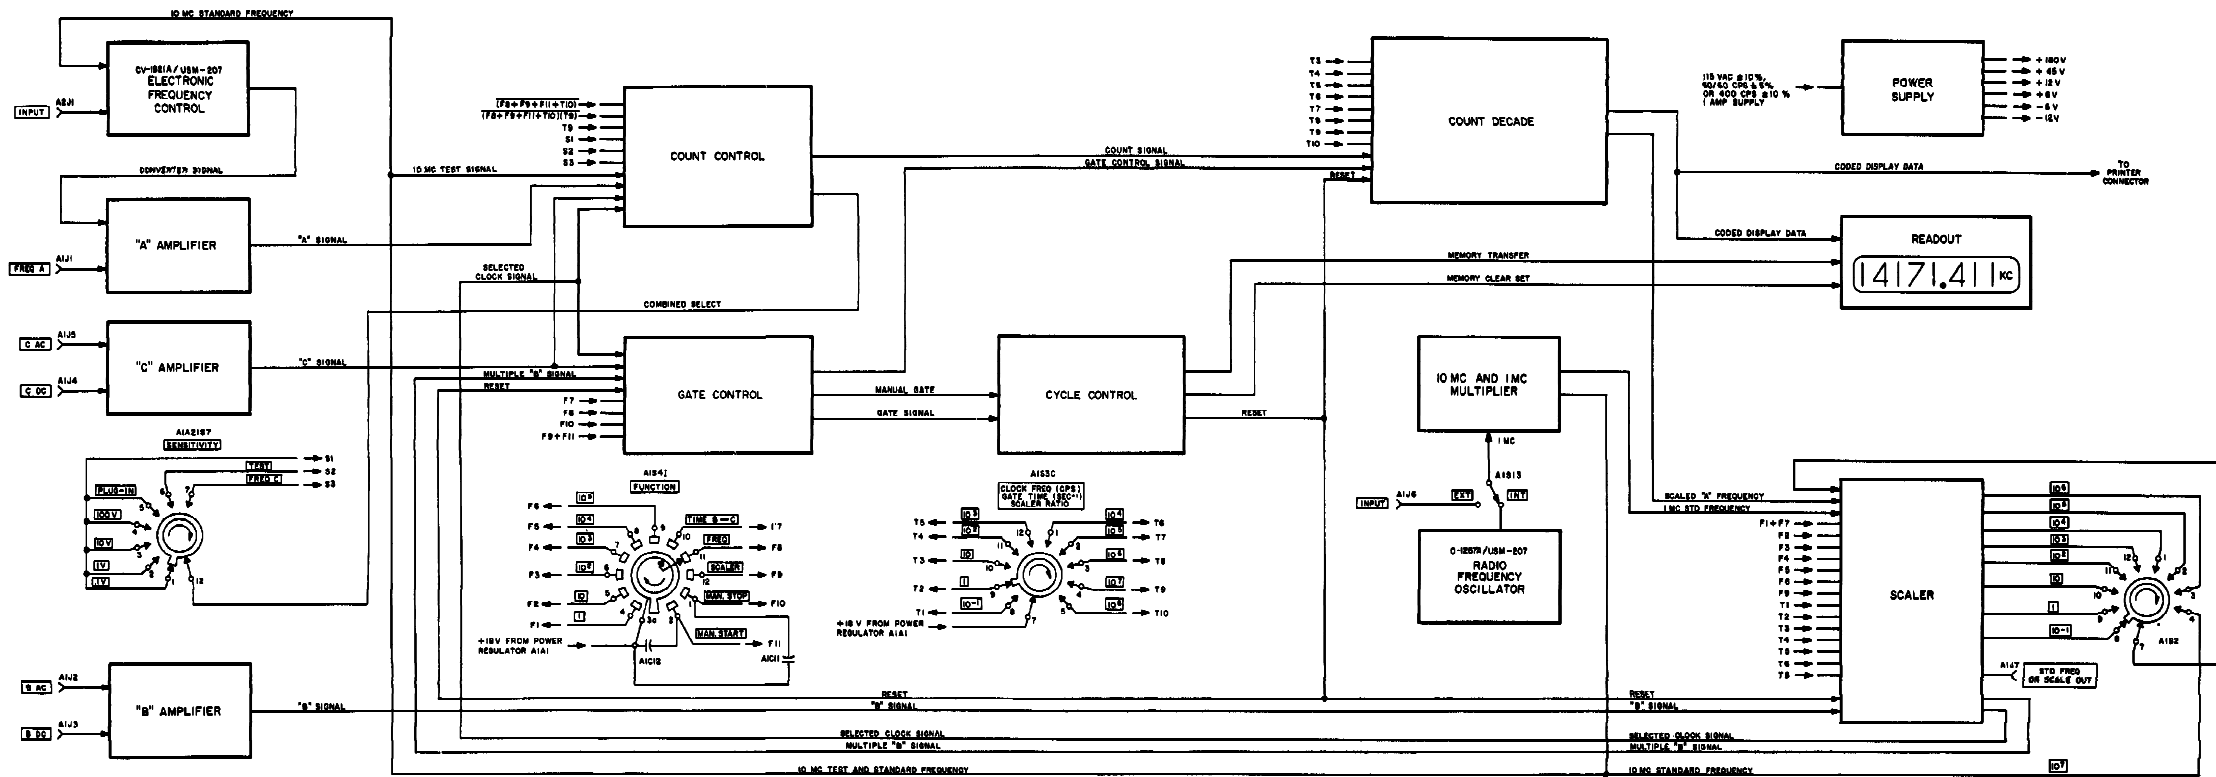

Figure 4-2. Overall Functional and Servicing Block Diagram
c. SERVICING BLOCK DIAGRAM. - A servicing block diagram for the overall counter is shown in figure 4-2. This diagram shows all the signals and select terms supplied to and taken from each functional section, and the development of the select terms by the various control switches.